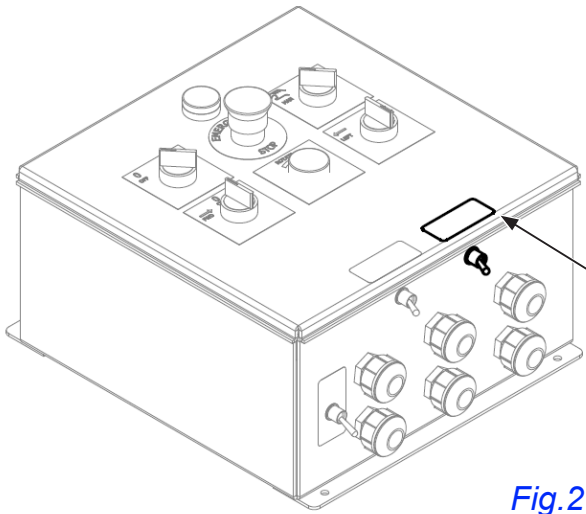

Fig. 2
5. Install provided toggle switch in the control panel. Blue wire should be towards left side of control panel. See Fig. 2.
9. Place provided film sensor decal on front face of control panel lid, centered with toggle switch. See Fig. 2.